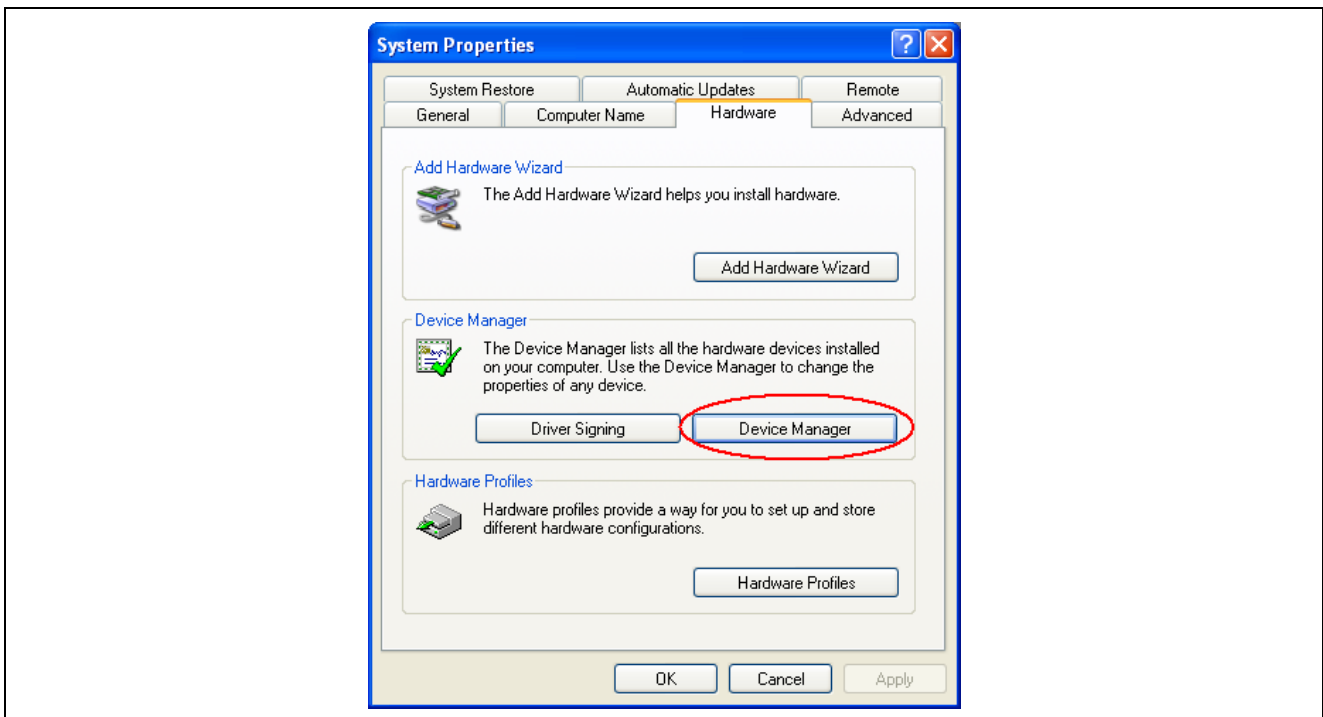

Figure 4.1 [System Properties] Dialog Box
- (1) Open the properties window for [My Computer] ([System Properties] dialog box).
- (2) Open the [Hardware] tabbed page and click on the [Device Manager] button as shown in Figure 4.1.